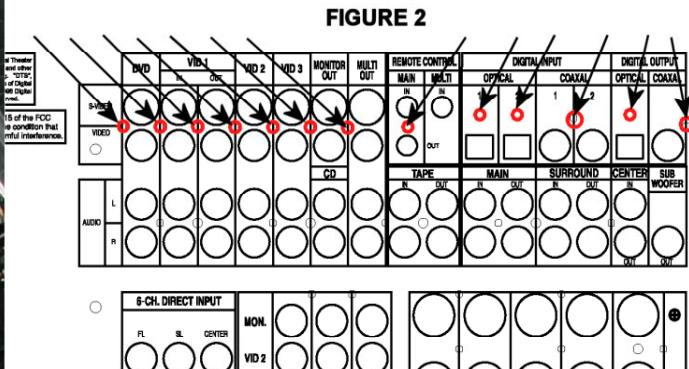
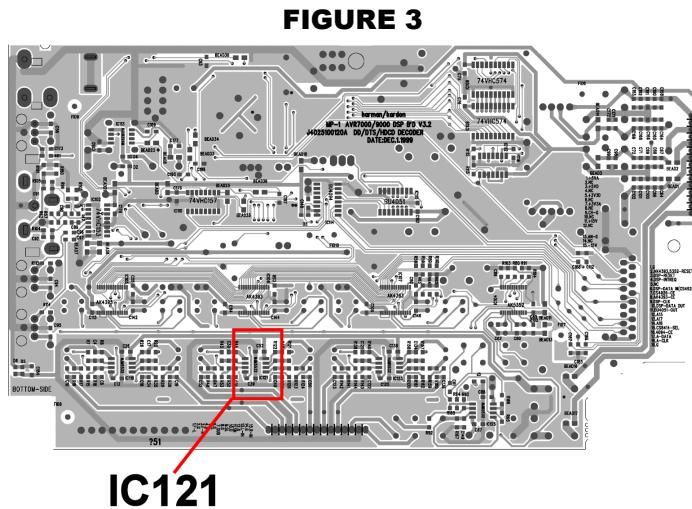

FIGURE 2
FIGURE 3
- c) Remove (13) black screws from the rear of the AVR7000 holding the Video and DSP PCB's (see figure 2).
- d) On the top of the Video PCB, remove the (3) remaining screws (2 black and 1 plated) holding the Video PCB to the chassis; remove the single black screw holding the bracket support to the DSP PCB.
- h) Remove the (2) remaining screws (1 plated, 1 black) holding the DSP PCB to the chassis. The black screw will loosen a small aluminum heatsink (for IC100); remove it.
- j) Locate IC121 (see figure 3) and resolder if needed.